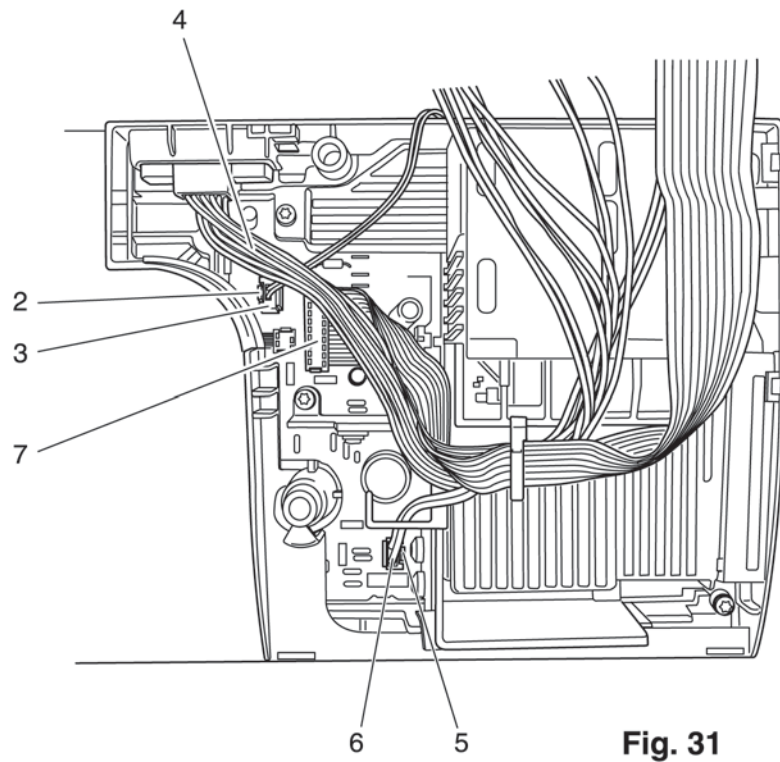

Fig. 31
- Lift latch 2 only 1-2 mm (fig. 31)